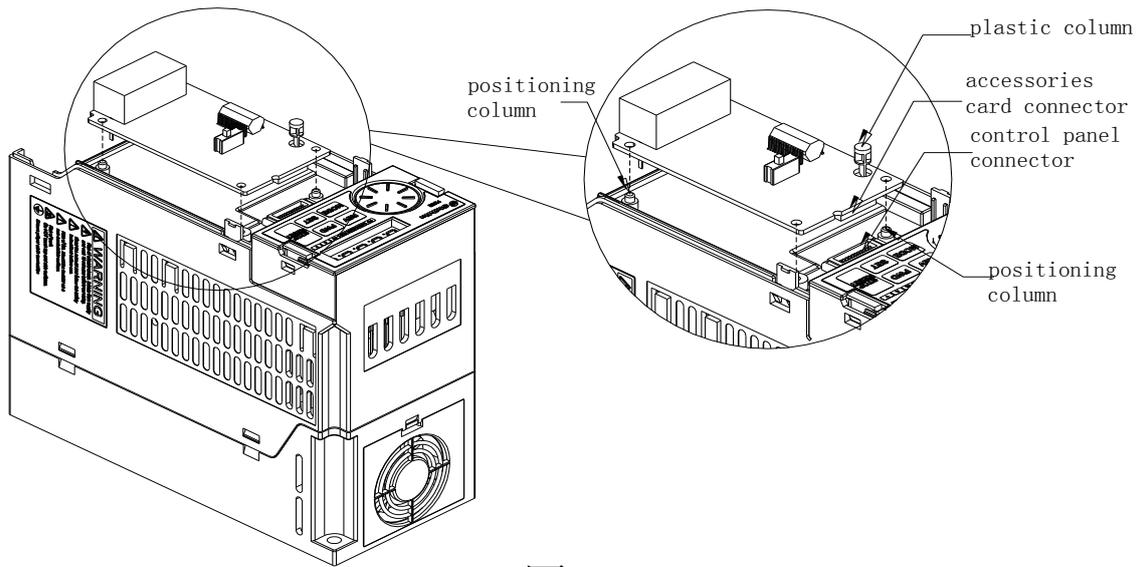

Figure 2
Step 5 : Tighten the two M3 screws in the direction shown in Figure 2 with a screwdriver at a torque of 4-6kgf.cm. Put the cover in place after wiring.